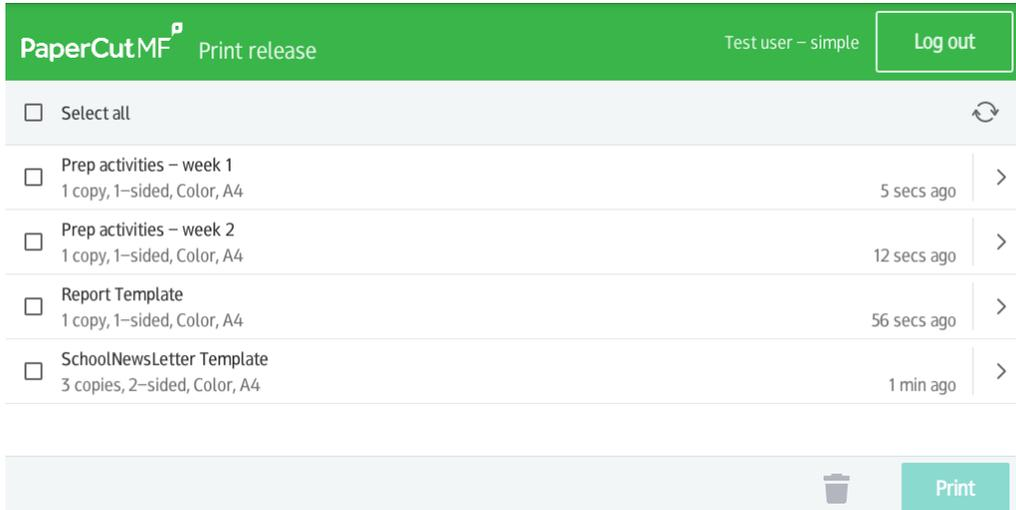

Figure 16: Print release screen (with all held print jobs)
3. Verify that print jobs for `testusersimple` are being held and displayed (see Figure 16):